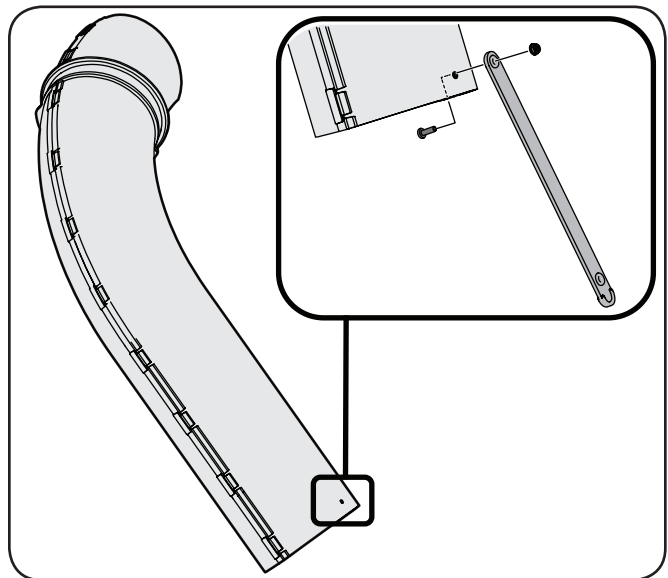

Figure 4-17
6. Locate the upper chute tube and install the 723-04009A chute strap included in hardware pack 689-00340, to the upper chute tube using a 710-0924 machine screw and 712-04064 flange nut provided in hardware pack 689-00337. See Figure 4-17.